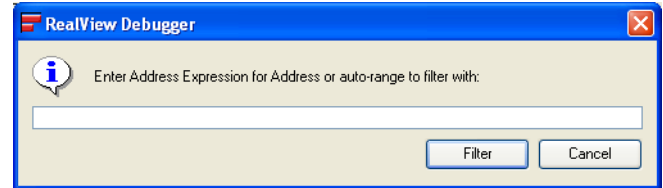

Figure 9-14 Filtering on an address expression match
1. Select **Filter** → **Filter on Address Expression...** from the Analysis window menu to open the Prompt dialog box. Figure 9-14 shows an example: